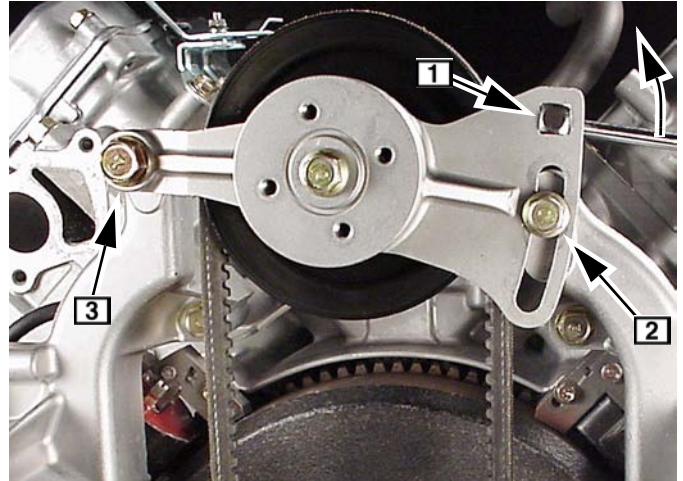

Fig. 158
5. Apply and hold 115 in. lbs. (13.0 Nm) torque to bracket, Fig. 158.